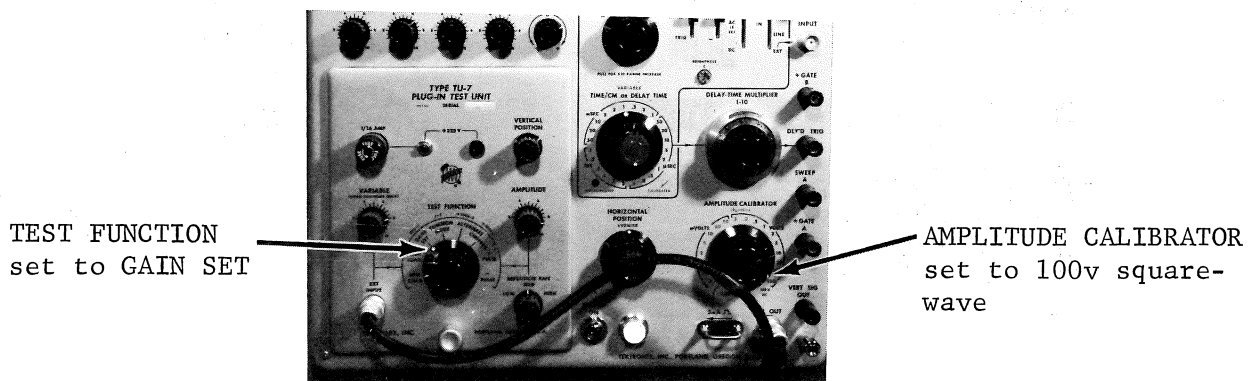

Figure 18
2. Apply a 100v square wave from the AMPLITUDE CALIBRATOR to the TU-7. (See Fig. 18)